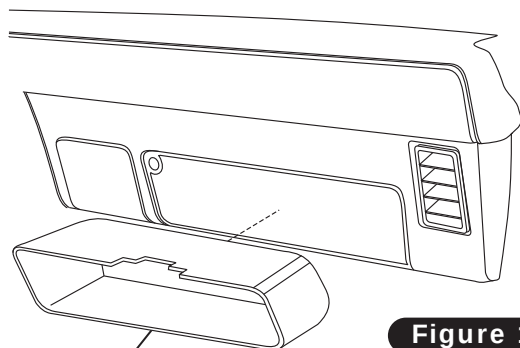

Figure 1
1. Place the glove box into the glove box opening in the dash (See Figure 1, below).
2. Using the glove box as a template, mark and drill (6) 1/16" holes into the dash.